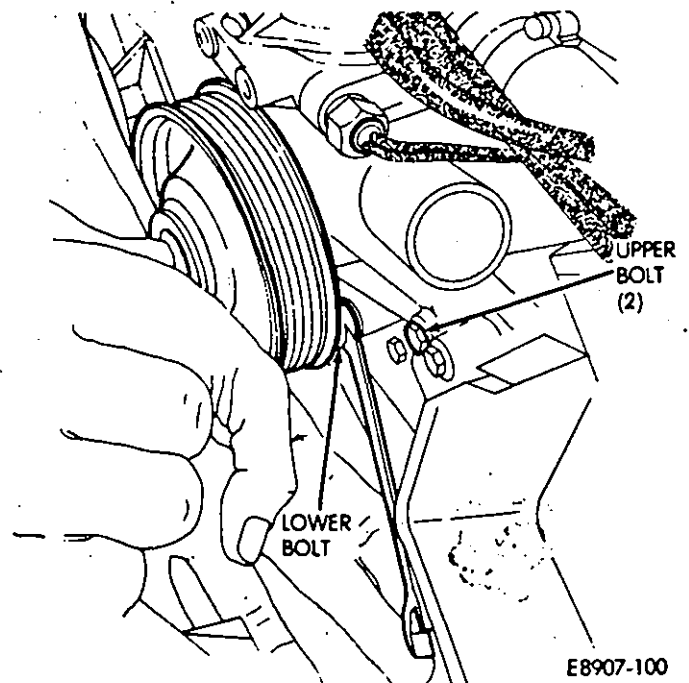

Fig. 8—Water Pump Lower Mounting Bolt Removal/Installation
- (15) Remove the water pump upper mounting bolts (Fig. 8).
- (16) Using an open end wrench, remove water pump lower mounting bolt (Fig. 8).